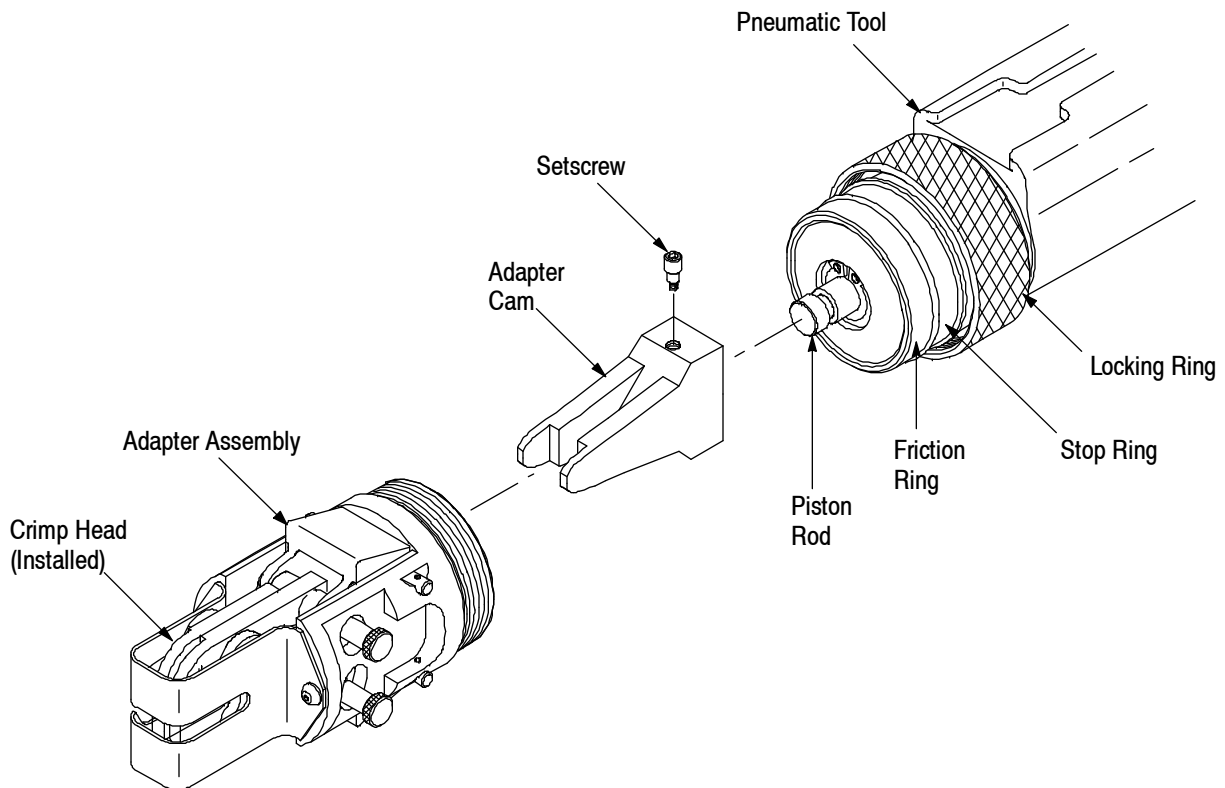

Figure 3
2. Place the adapter cam (with setscrew) onto the piston rod of the pneumatic tool as shown in Figure 3. The adapter cam should butt against the piston rod face. If not, turn the setscrew counterclockwise until the adapter cam fits on the piston rod properly.